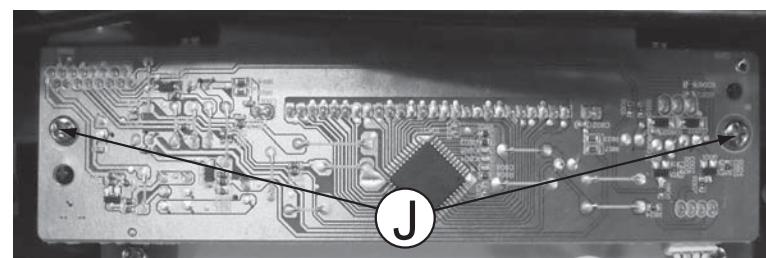

Figure 10
- 1) Loosen 2 screws "J" on the top of VFD Board as shown in figure 10 to remove it.